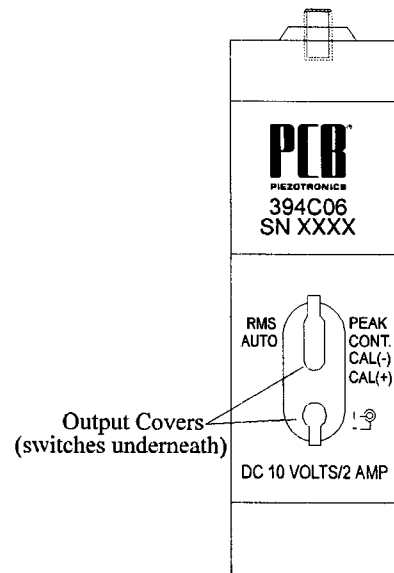

Figure 4. Handheld Shaker Calibration Check Points
The Model 394C06 permits accurate adjustment of measuring instrumentation to indicate a standard acceleration level of 1g RMS or 1 g peak, adjusting the system for correct measurement. The reference signal may also be used for velocity and displacement, at 10  $\text{mms}^{-1}$  RMS or 10  $\text{mms}^{-1}$  peak and 10  $\mu\text{m}$  RMS or 10  $\mu\text{m}$  peak-to-peak, respectively. To change between RMS and peak, depress the corresponding side of the rocker switch in the options cavity of the shaker. For example, to choose RMS, depress the left side of the rocker switch (see Figure 4).
life of the batteries, the Model 394A06 automatically switches off after 90 seconds. With new batteries, 80 sensitivity checks with maximum load are possible. To change between auto shutoff and continuous run, depress the corresponding side of the rocker switch in the options cavity of the shaker. For example to choose auto shutoff, depress the left side of the rocker switch (see Figure 4).
- **Calibration check points.** Calibration of the internal feedback circuit can be verified via test points (located in the options access pocket). See Figure 4.